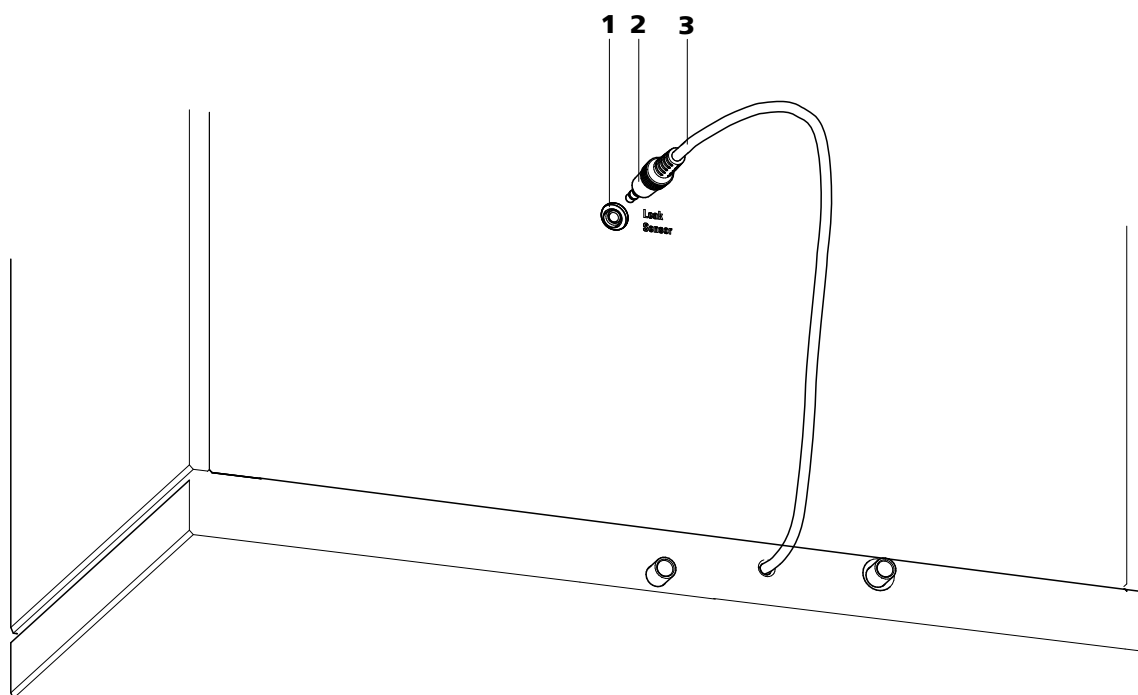

Figure 6 Connection of the leak sensor on the rear of the instrument
- 1 Plug the leak sensor connector plug (6-2) into the leak sensor connection socket (6-1) on the rear of the instrument (*see figure 6, page 20*).